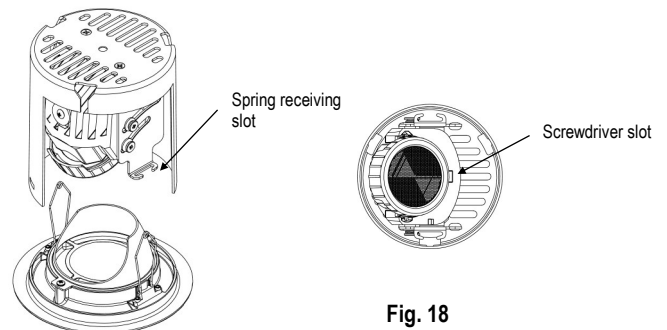

Fig. 18
A. To adjust aiming angle use a standard flat-blade screwdriver or your hand, rotate and/or tilt the adjustment mechanism until the desired aiming position is achieved (Fig. 18)